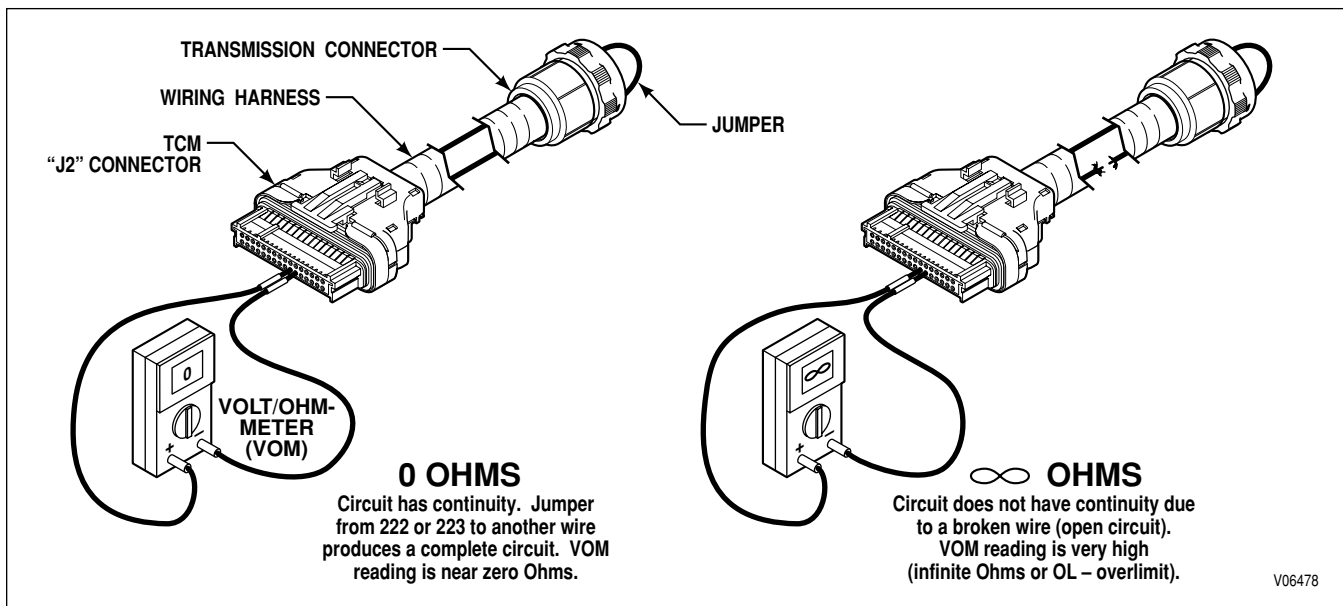

Figure 4-1. Checking Continuity (External Harness)
- a. Check continuity of wires 222 and 223 by performing the following (Figure 4-1):
- (1) Disconnect the red (J2) connector from the TCM and disconnect the harness from the transmission main connector. At one end of the harness, using jumper wire kit J 39197 and connector probes in J 39775-CP, connect wire 222 and 223 to each other, being careful not to distort the terminals. Jumping the wires together creates a circuit between wires 222 and 223.